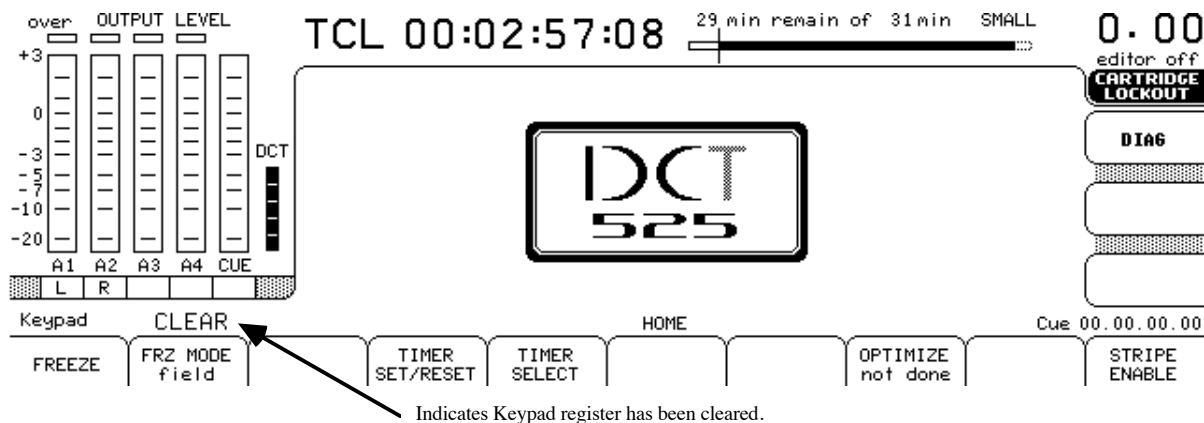

Figure 3.07 A partial display showing the Keypad CLEAR instruction.
The above Figure 3.07, shows the screen as it is after pressing the *home* push-button, and the clear (C) push-button has been pressed, which is indicated by the CLEAR in the lower left corner of the display. Refer to Section 6 for function.